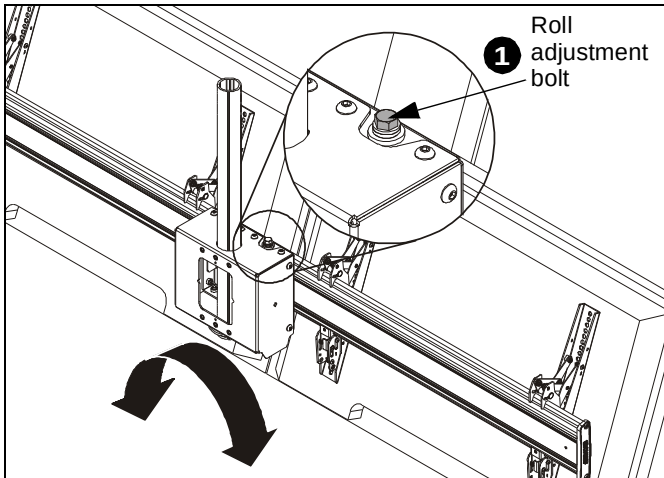

Figure 11
1. Turn the roll adjustment bolt in the direction necessary for the desired roll. (See Figure 11)